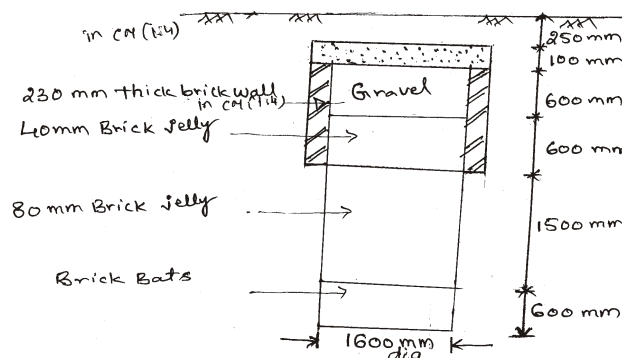

Fig. 3
9. The cross-section of circular dispersion trench 1.60 m dia is shown in Fig. 3. Calculate the quantities of following :